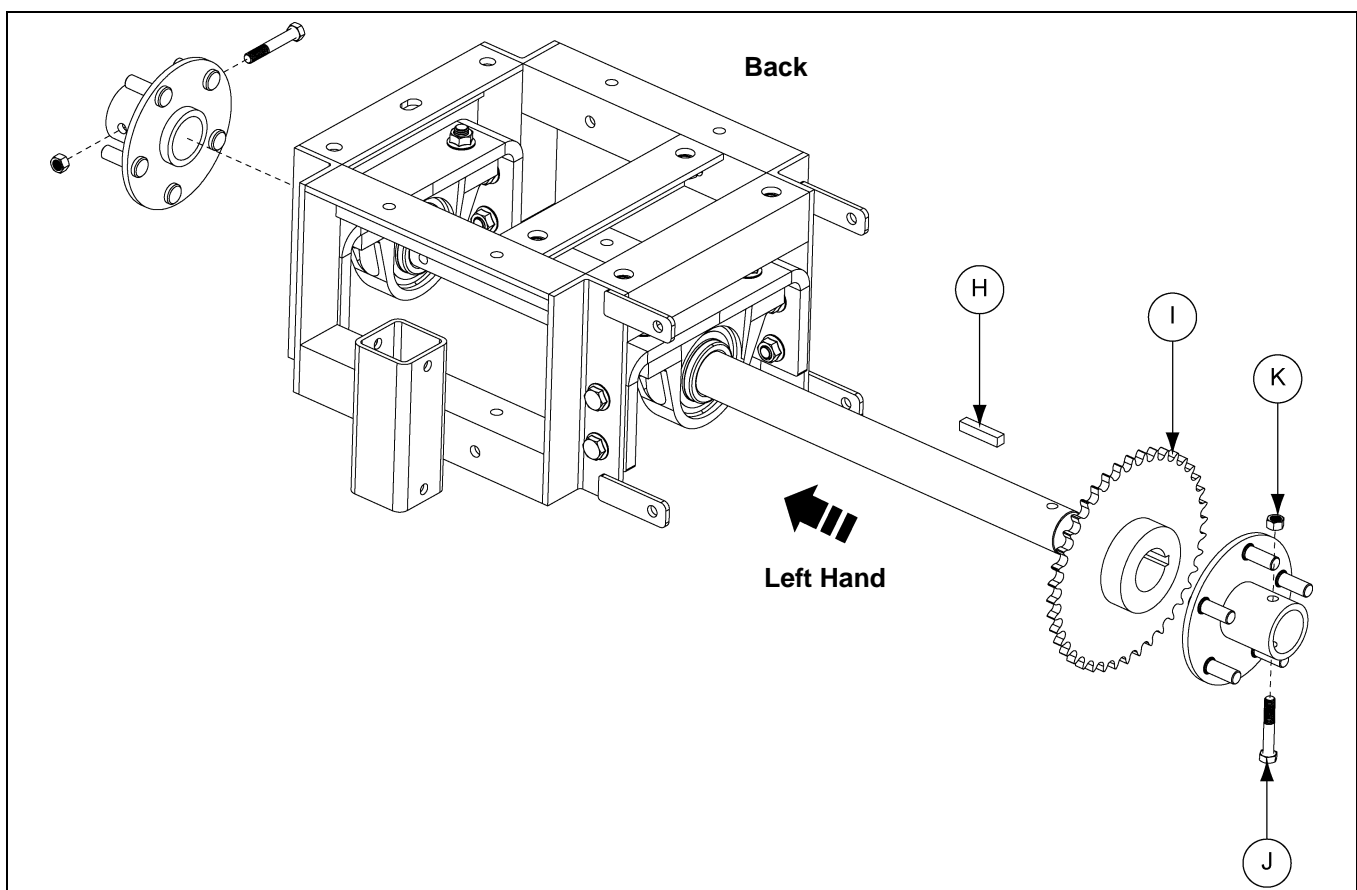

Figure 4Q
5. Assemble the 40 tooth sprocket (I) to the tractor axle using a 3/8" square x 1-3/4" key (H). Temporarily tighten the sprocket to the key and the shaft. Final adjustment of the sprocket placement will occur after the chain is installed.
6. Mount the wheel hubs to the tractor axle using 3/8"-16 x 2-1/2" hex head cap screws (J) and stover lock nuts (K). (See Figure 4Q.)